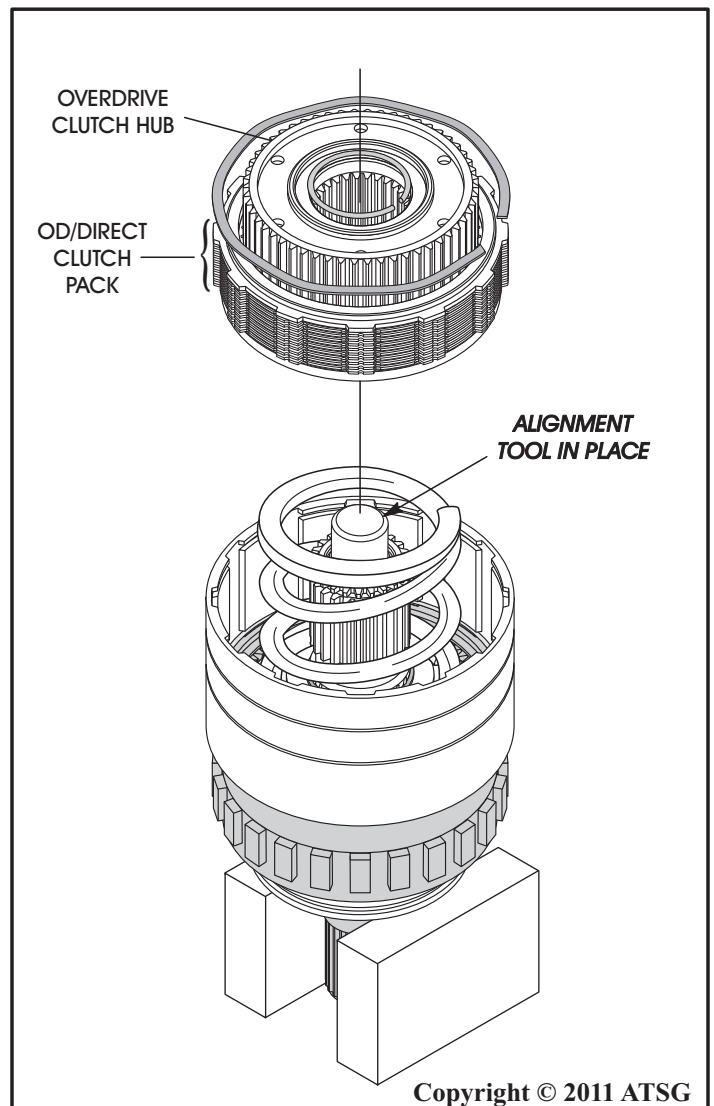

Figure 185
27. Install the previously loaded overdrive clutch hub on top of the overdrive direct clutch spring, as shown in Figure 185.
28. Place the overdrive direct backing plate "wave" snap ring on top of pressure plate, as shown in Figure 185.
29. Place the overdrive clutch hub "wire type" snap ring on top of overdrive clutch hub, as shown in Figure 185.
30. Ensure alignment tool is still in place, as shown in Figure 185.